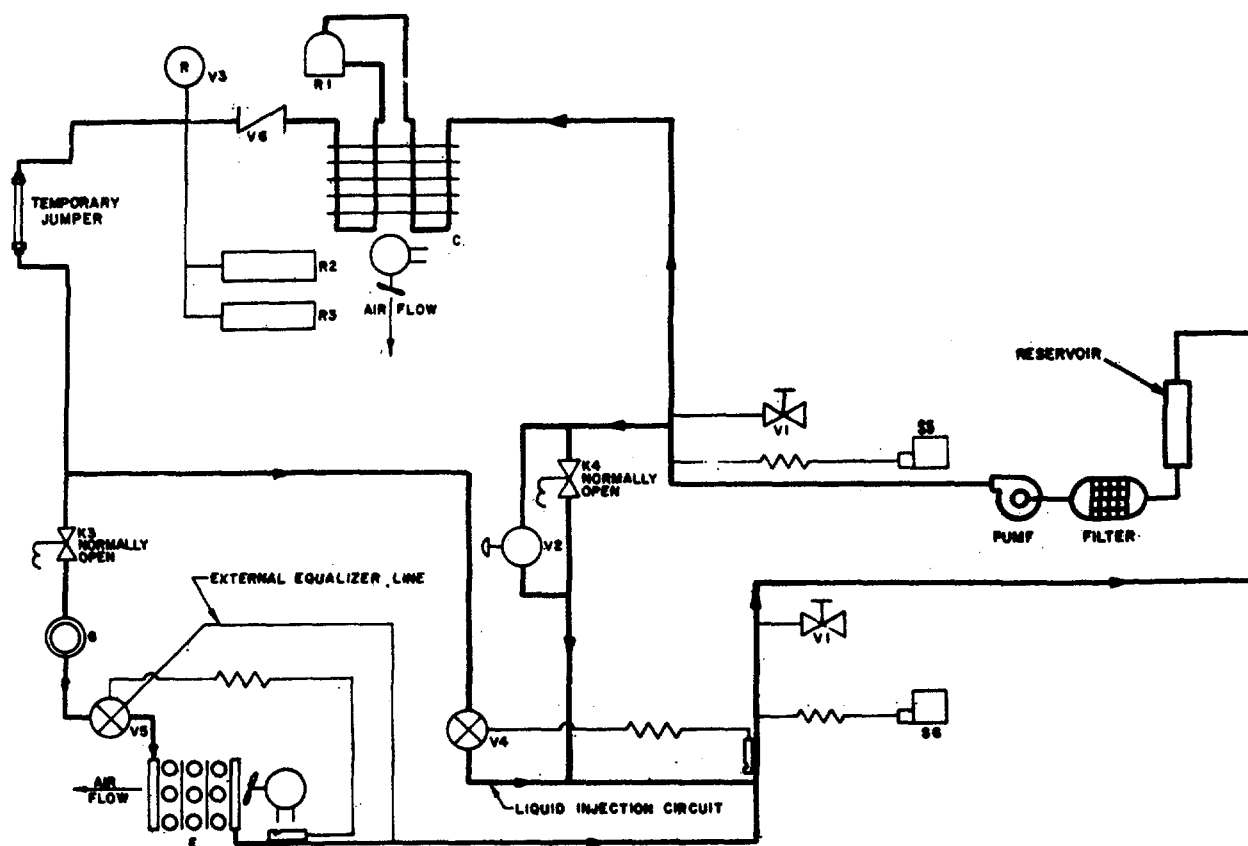

Figure 5-1. Typical Flushing Hook-up.
**b.** Connect the two drier-strainer fittings with a jumper locally manufactured from refrigerant tubing and fittings, and install a pump reservoir and filter in place of the compressor. (See Figure 5-1).
**c.** Disassemble both expansion valves (V4 and V5, Figure 5-1) and temporarily remove the valve cages. Reinstall shell of power assembly using a locally manufactured gasket between power assembly and body to prevent leakage. Tag and retain valve cages for use at re-assembly.
**g.** Disassemble both expansion valves (V4 and V5, Figure 5-1) and re-install the valve cages. Install new gaskets, and assemble the valves, making sure the projections on valve cages fit in notches in valve bodies.